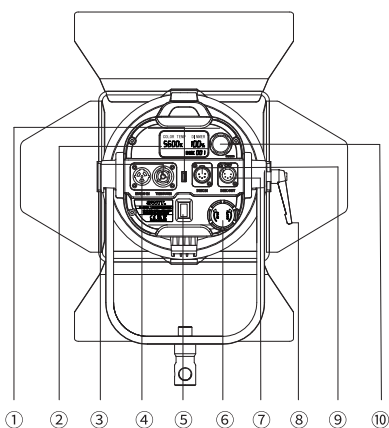

Fig.3 FL-C100 Rear View
Hold the brightness adjustment knob (As shown in Figure 3 ⑩) for about 2 seconds to enter the communication address setting interface. The communication address setting range is 001-512. The LCD (Figure 3 ②) blinks, indicating that the current position is selected. Rotate the brightness adjustment knob (Figure 3 ⑩) to set the current position and press the brightness adjustment Knob (Figure 3 ⑩) to determine the current bit Settings and enter the next bit Settings. When the last bit Settings are completed, press the brightness adjustment knob (Figure 3 ⑩) or wait for about 5 seconds to exit the communication address Settings